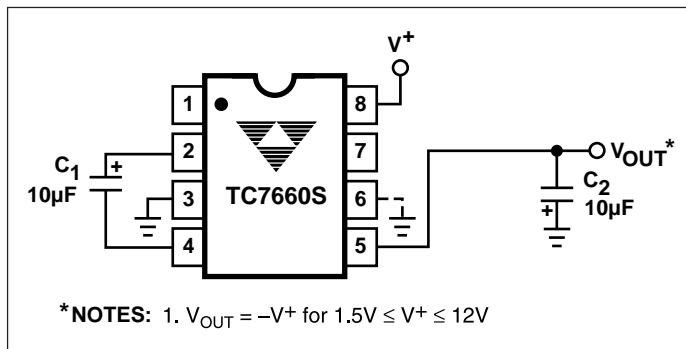
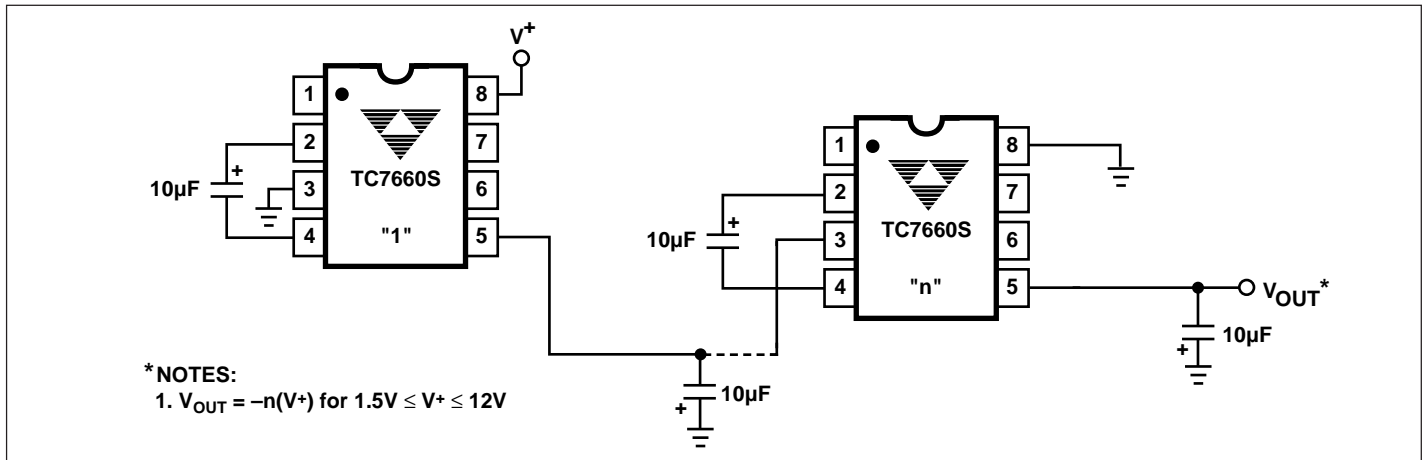
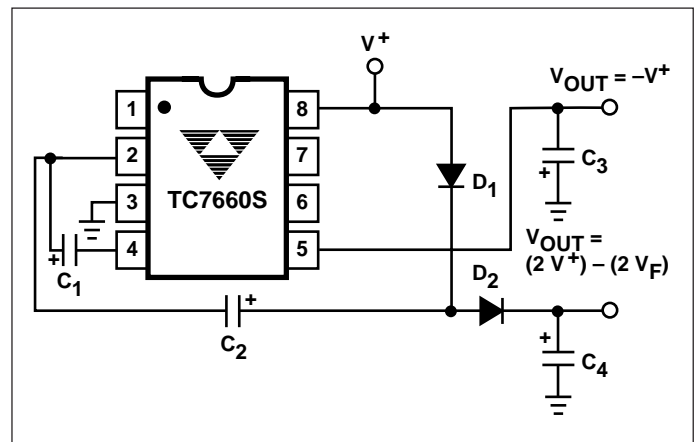
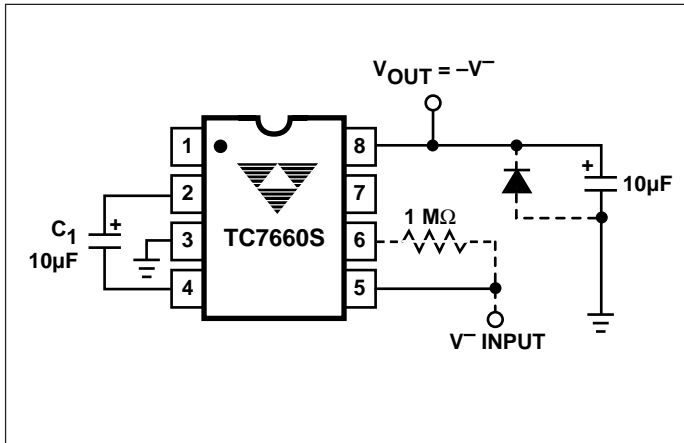

Figure 3. Simple Negative Converter
Figure 5. Increased Output Voltage by Cascading Devices
Figure 9. Combined Negative Converter and Positive Multiplier
Figure 10. Positive Voltage Multiplier
Figure 3 shows typical connections to provide a negative supply where a positive supply is available. A similar scheme may be employed for supply voltages anywhere in the operating range of +1.5V to +12V, keeping in mind that pin 6 (LV) is tied to the supply negative (GND) only for supply voltages below 3.5V.
The output characteristics of the circuit in Figure 3 are those of a nearly ideal voltage source in series with  $70\Omega$ . Thus, for a load current of  $-10mA$  and a supply voltage of +5V, the output voltage would be  $-4.3V$ .
The TC7660S may be cascaded as shown (Figure 5) to produce larger negative multiplication of the initial supply voltage. However, due to the finite efficiency of each device, the practical limit is 10 devices for light loads. The output voltage is defined by:
Figure 9 combines the functions shown in Figures 3 and 8 to provide negative voltage conversion and positive voltage multiplication simultaneously. This approach would be, for example, suitable for generating +9V and -5V from an existing +5V supply. In this instance, capacitors  $C_1$  and  $C_3$  perform the pump and reservoir functions, respectively, for the generation of the negative voltage, while capacitors  $C_2$  and  $C_4$  are pump and reservoir, respectively, for the multiplied positive voltage. There is a penalty in this configuration which combines both functions, however, in that the source impedances of the generated supplies will be somewhat higher due to the finite impedance of the common charge pump driver at pin 2 of the device.
Since the switches that allow the charge pumping operation are bidirectional, the charge transfer can be performed backwards as easily as forwards. Figure 10 shows a TC7660S transforming -5V to +5V (or +5V to +10V, etc.). The only problem here is that the internal clock and switch-drive section will not operate until some positive voltage has been generated. An initial inefficient pump, as shown in Figure 9, could be used to start this circuit up, after which it
will bypass the other ( $D_1$  and  $D_2$  in Figure 9 would never turn on), or else the diode and resistor shown dotted in Figure 10 can be used to "force" the internal regulator on.
The same bidirectional characteristics used in Figure 10 can also be used to split a higher supply in half, as shown in Figure 11. The combined load will be evenly shared between the two sides. Once again, a high value resistor to the LV pin ensures start-up. Because the switches share the load in parallel, the output impedance is much lower than in the standard circuits, and higher currents can be drawn from the device. By using this circuit, and then the circuit of Figure 5, +15V can be converted (via +7.5V and -7.5V) to a nominal -15V, though with rather high series resistance (~250Ω).